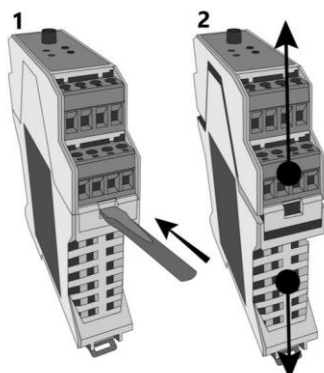

Fig. 4. Take off the case.
- Open the controller case as shown in Fig. 4: